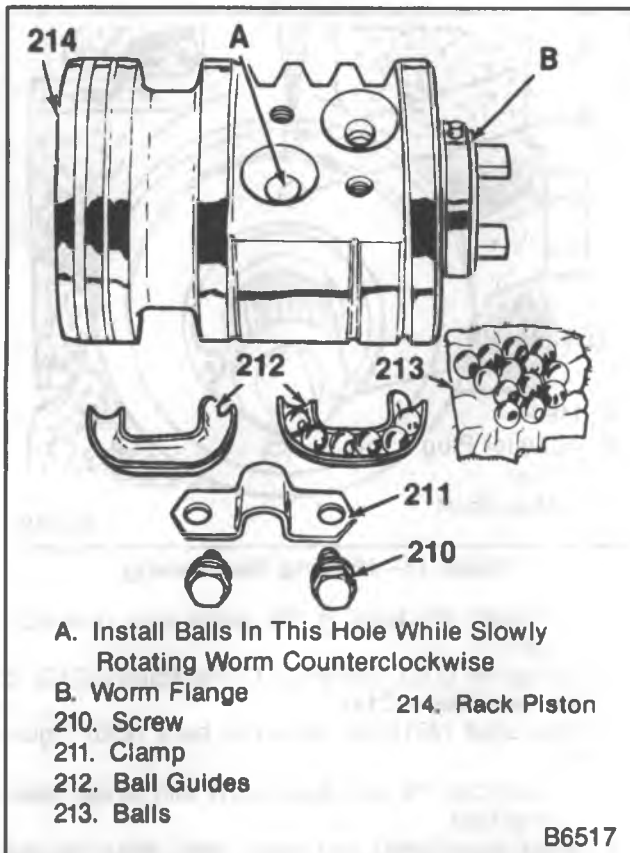

Figure 12—Installing the Balls Into the Rack Piston
1. Balls (213), alternately by color, in the rack piston (214) (figure 12). Use J 21552 in the rack piston.